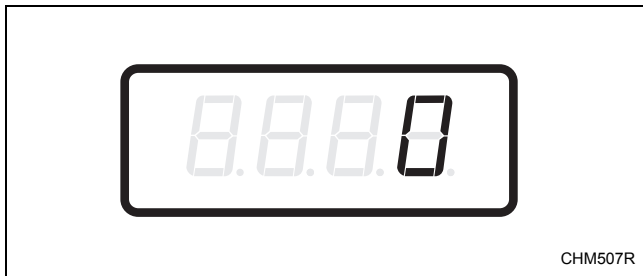

Figure 29
2. When “SA19” appears in the display, press the START (enter) keypad. There are five digits in the Special Vend A Delicates Cold Vend Price. The fifth digit will appear in the display and will flash one (1) second on and one (1) second off. Refer to *Figure 29*.